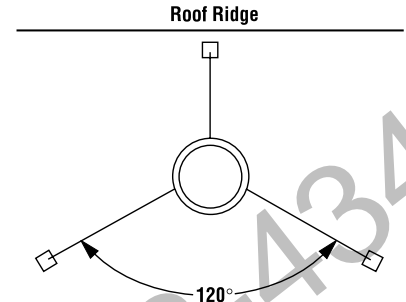

Figure 31
**Note:** If chimney extends more than 8' above roof surface, guy wires are also recommended. Use three (3) guy wires, attach to locking band assembly, extend and secure to roof in a triangular pattern (Figure 31). Guy wires are not supplied by the manufacturer.